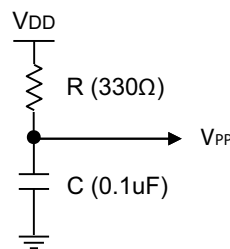

Figure 136. RC Delay Circuit
The TEST pin on the socket board for the MTP Writer must be connected to  $V_{DD}$  (5.0V) with RC delay as shown in Figure 136 (only when SPW 2+ and GW-pro2 are used). The TEST pin on this socket board must not be connected to  $V_{PP}$  (12.5V), which is generated from the MTP Writer. Therefore, the specific socket board for the S3F8S5A MCU must be used when writing or erasing using the MTP Writer.
► **Note:** If the writer tool you are using is the SPW 2+ or the GW-pro2, refer to Figure 136.